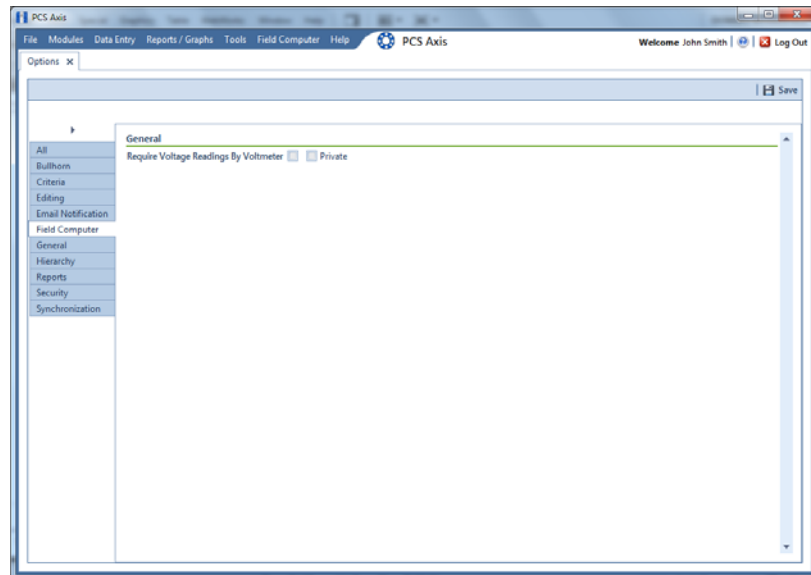

Figure 3-10. Field Computer Options
- 1 If the *Options* window is not open, click **Tools > Options** to open the window. Then click the **Field Computer** tab (Figure 3-10).